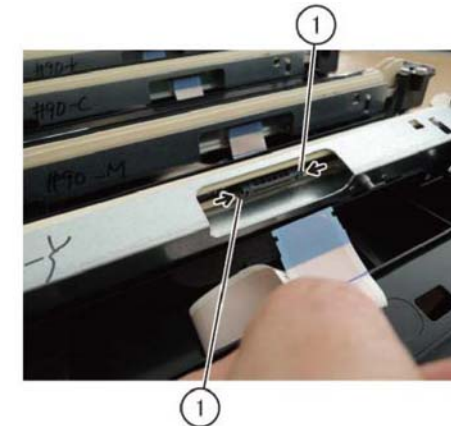

Figure 5 FFC cable
12. Push the two ends (2) simultaneously towards the direction of the arrow and remove the FFC cable, Figure 5.